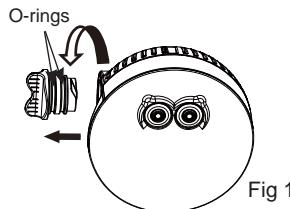

Fig 1
1. Dry product completely. Unscrew the battery housing cover (1) from the Spa LED light (see Fig 1). Be careful not to lose the two o-rings on the battery housing cover.